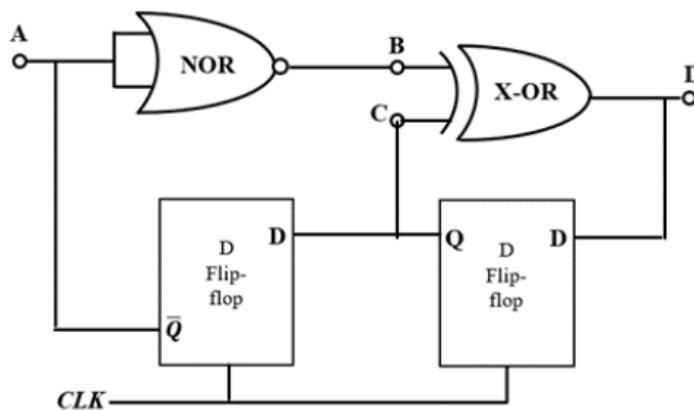

Fig. 5.10
10. Neglecting the delays due to the logic gates in the circuit shown in Fig. 5.10, the decimal equivalent of the binary sequence  $[ABCD]$  of initial logic states, which will not change with clock, is \_\_\_\_\_.